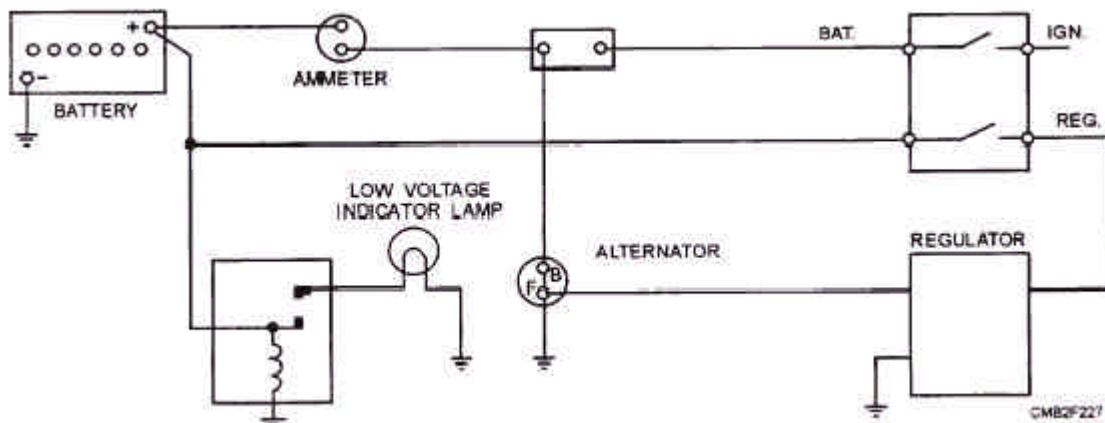

Figure 2-75.- Low voltage warning lamp schematic.
1. LOW VOLTAGE WARNING LAMP (fig. 2-75) is set up to warn the operator whenever the electrical system voltage has dropped below the normal operational range.